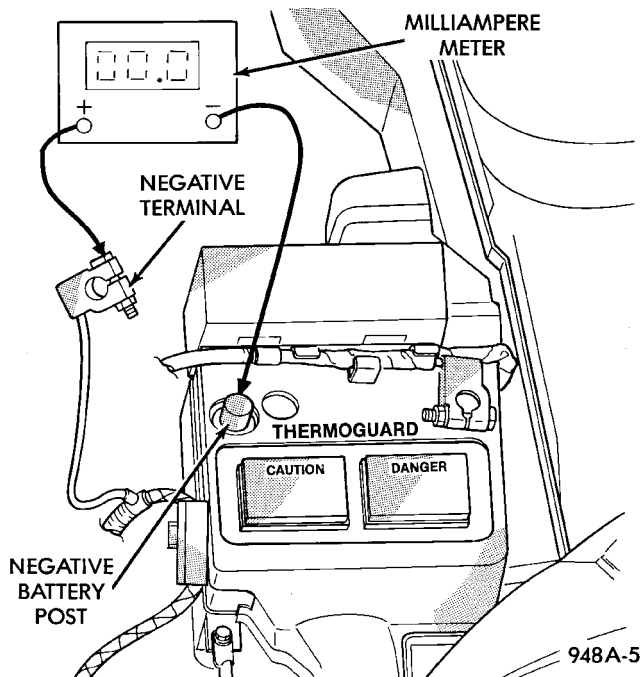

Fig. 7 Milliampere Meter Connection
- (1) Remove interior lamp and fuel pump fuses. By removing these fuses all ignition off draw from the vehicle electronics will be disconnected. The test lamp should go out. If test lamp goes out go to Step 2. If test lamp does not go out there is a current draw or short circuit. Refer to Group 8W, Wiring Diagrams.
- (2) Install the fuel pump fuse. If test lamp lights, there is a current draw or short circuit in the A14 wiring circuit feed.
- (3) Install the interior lamp fuse. If test lamp lights, there is a current draw or short circuit in the M01 circuit. Refer to Group 8W, Wiring Diagrams. If test lamp stays out, go to Step 4
- (4) Use a multi-meter that has at least a range of 200 milliamperes. Install meter between the battery negative cable and battery negative post (Fig. 7). Carefully remove the test lamp without disconnecting the meter. After all modules time-out the total vehicle IOD should be less than 10 milliamperes. If ignition off draw is more than 10 milliamperes go to Step 5.
- (5) Remove both fuses from the Power Distribution Center: